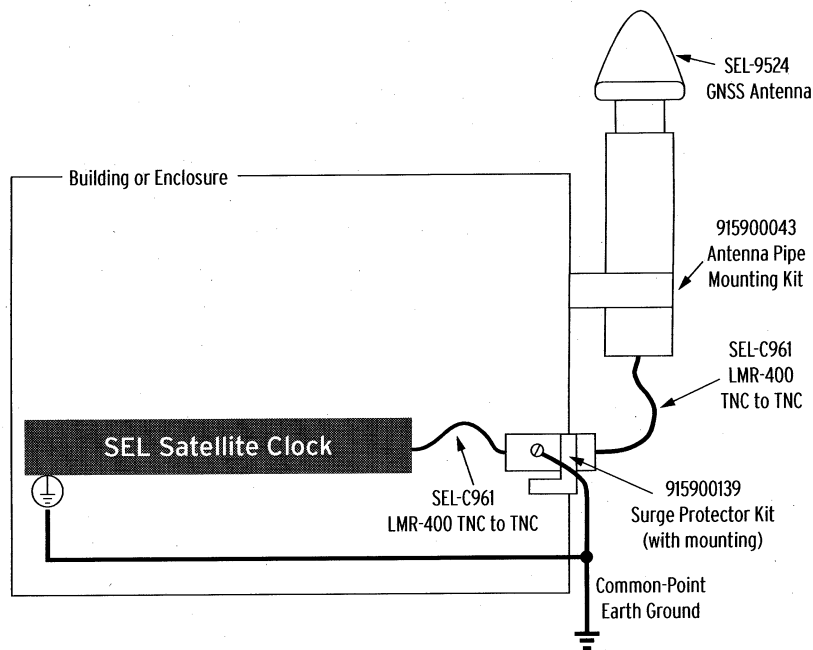

Figure 6 Surge Protector Installation
- Step 3. Ground the surge protector body, as shown in *Figure 6*.